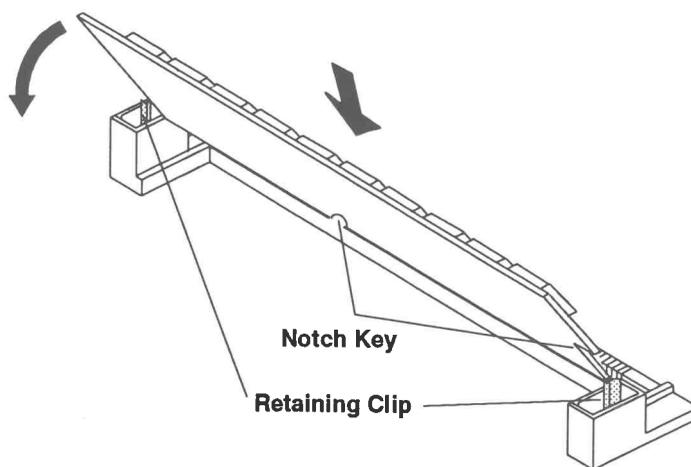

Figure 3-2 Installing Memory Modules
5. Position a memory module over a socket with the notch keys of the module oriented relative to the socket as shown in Figure 3-2.